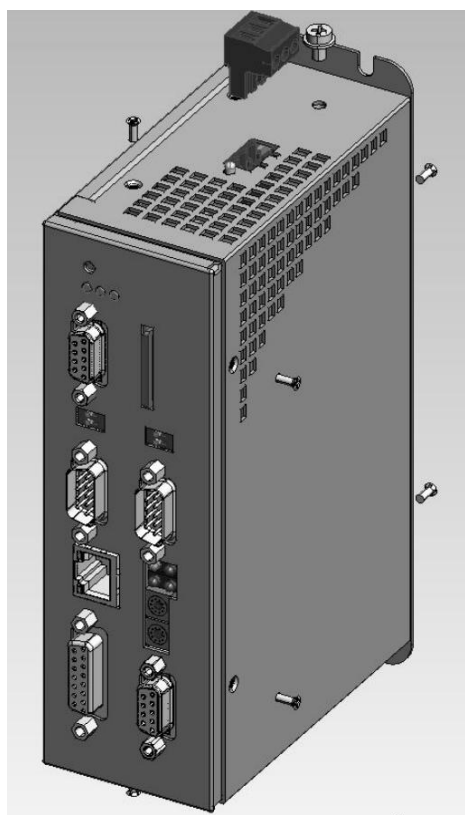

Figure 10: Dismantle FCT200 tightening screws on lid
- Unscrew the eight tightening screws on the lid and the operational earth screw (Figure 10)